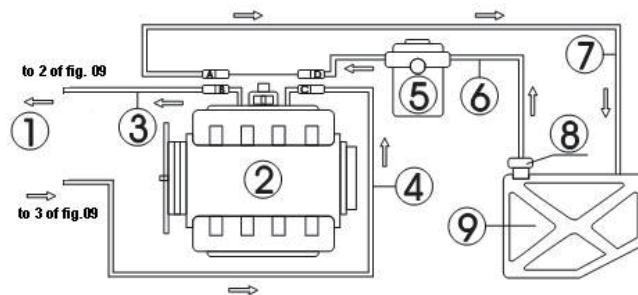

Fig.09
The hose line connection of the engine with return hose is shown as in Fig.09.
- Disconnect the connections of fuel supply hoses (C、D) and fuel return hoses (A、B) of the engine fuel system (wrap the connector with towel when disconnecting the connector). Choose proper connectors and connect them to the B end and C end separately, and then connect the other ends to corresponding return hose and outlet hose of the unit. See Fig.09.